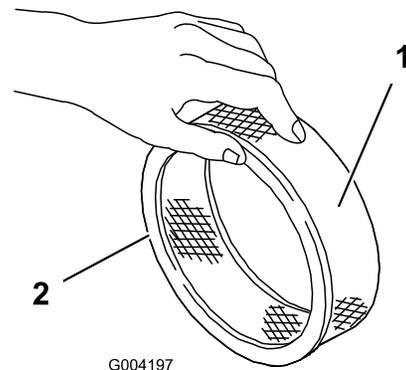

Figure 16
5. Inspect the paper filter for tears, an oily film, and damage to the rubber seal (Figure 16).
1. Carefully slide the foam pre-filter onto the paper filter (Figure 16).